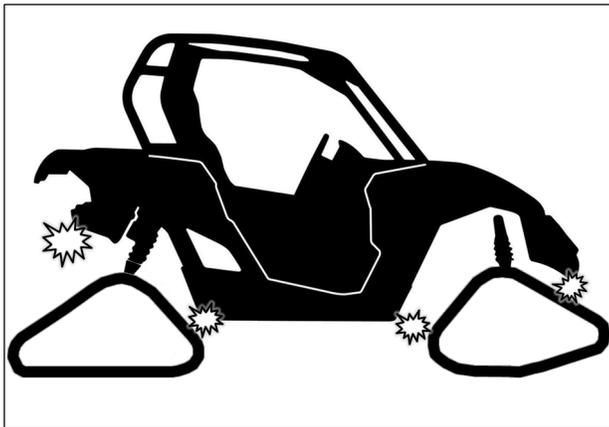

Fig. 34
2. Verify for possible contact between Track System and lower fender corners. See Fig. 34